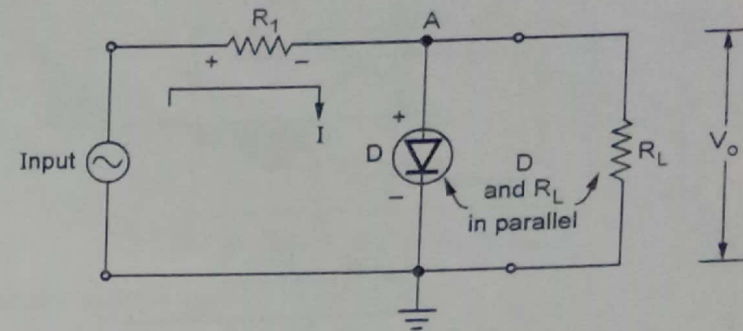

Fig. Q.43.1 Parallel positive clipper
- The Fig. Q.43.1 shows the basic parallel positive clipper circuit in which diode D is connected across the load resistance R_L . The resistance R_1 is current controlling resistance.